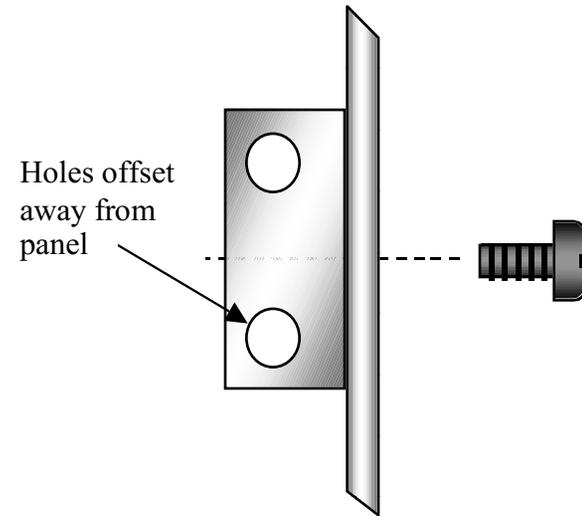

Figure 16
- Secure each 2-D fastener to the side panel using **one** 4-40 x 3/16" [4.7 mm] screw (black). **The fasteners must be oriented as shown in the detail drawing, Figure 16.**